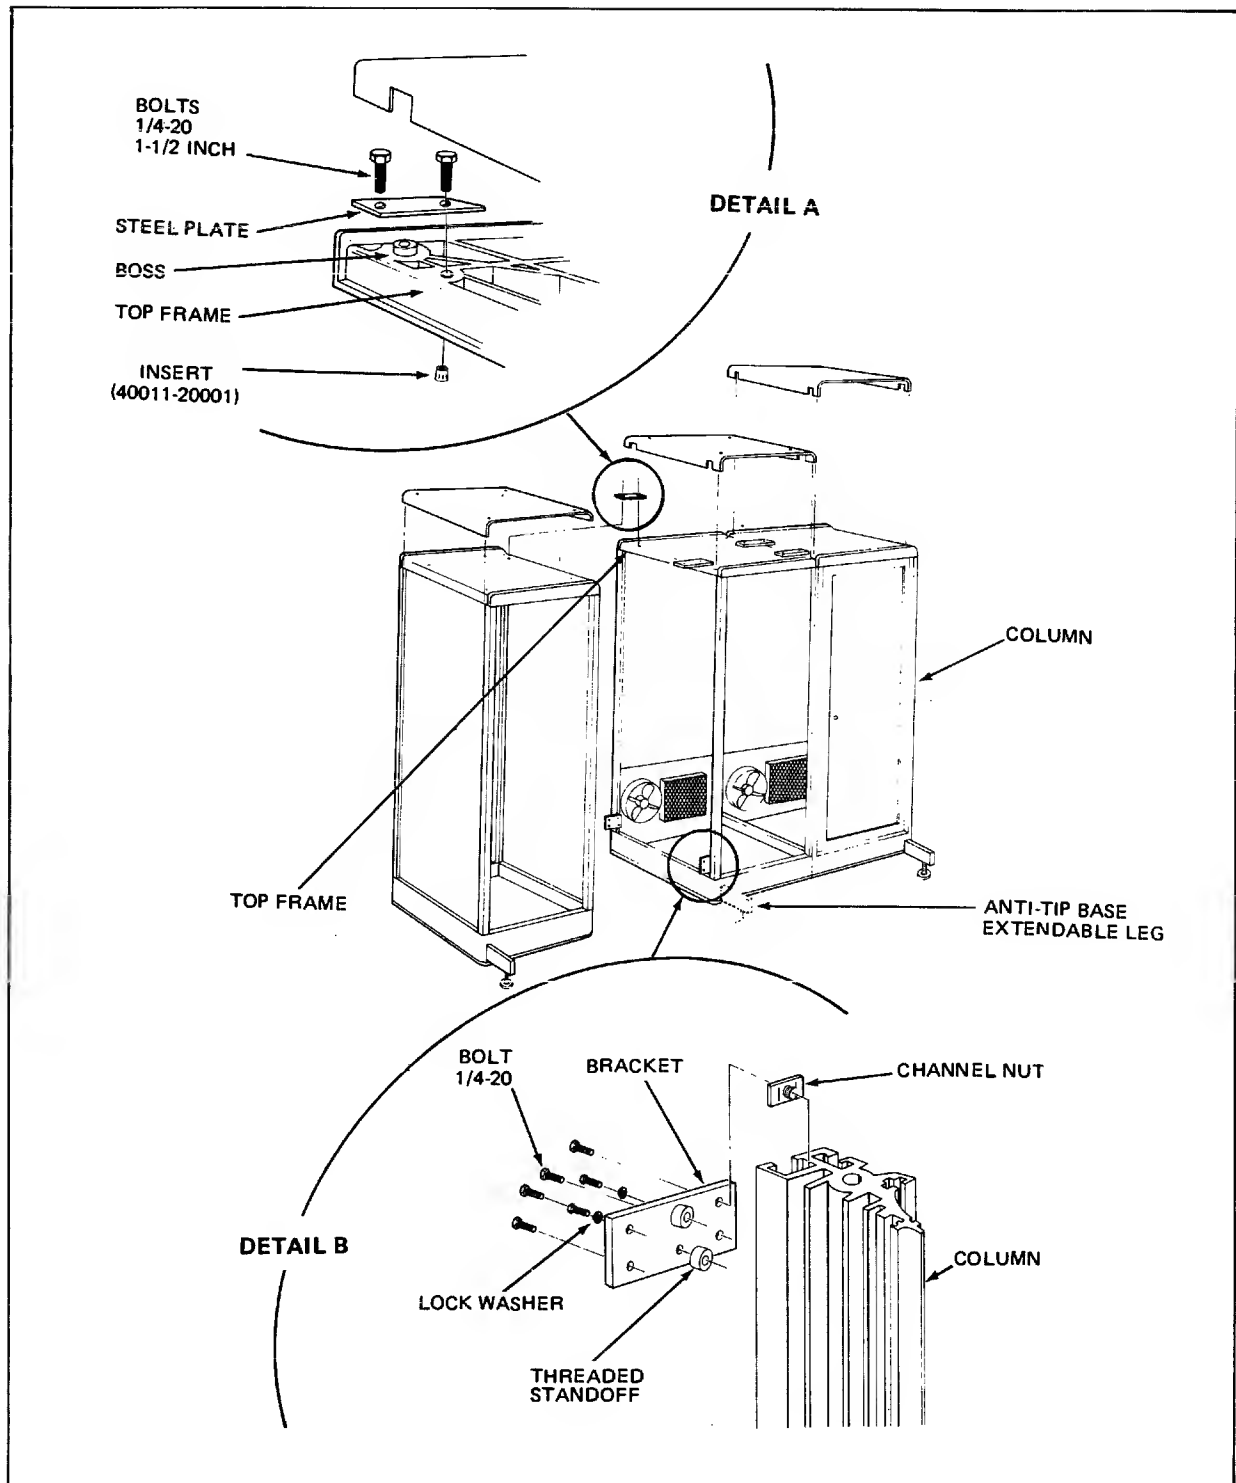

Figure 2-6. Tie-Together Kit Installation
**2-11. MECHANICAL.** Locate the HP Accessory Number 40011A Tie-Together Kit in a packet within the CPU cabinet, then follow the instructions below and refer to figure 2-6.
2. Install Insert Part Number 40011-20001 into a top frame then insert a bolt (1/4-20 × 1-1/2 inch) through a steel plate, through that top frame and into the Insert, as shown in figure 2-6 detail A.
5. Find two channel nuts in a support column, left there during system testing and prior to shipment, as shown in figure 2-6 detail B.
6. Install two bolts (1/4-20 × 1-1/2 inch) into a bottom bracket and into threaded standoffs, as shown in figure 2-6 detail B.